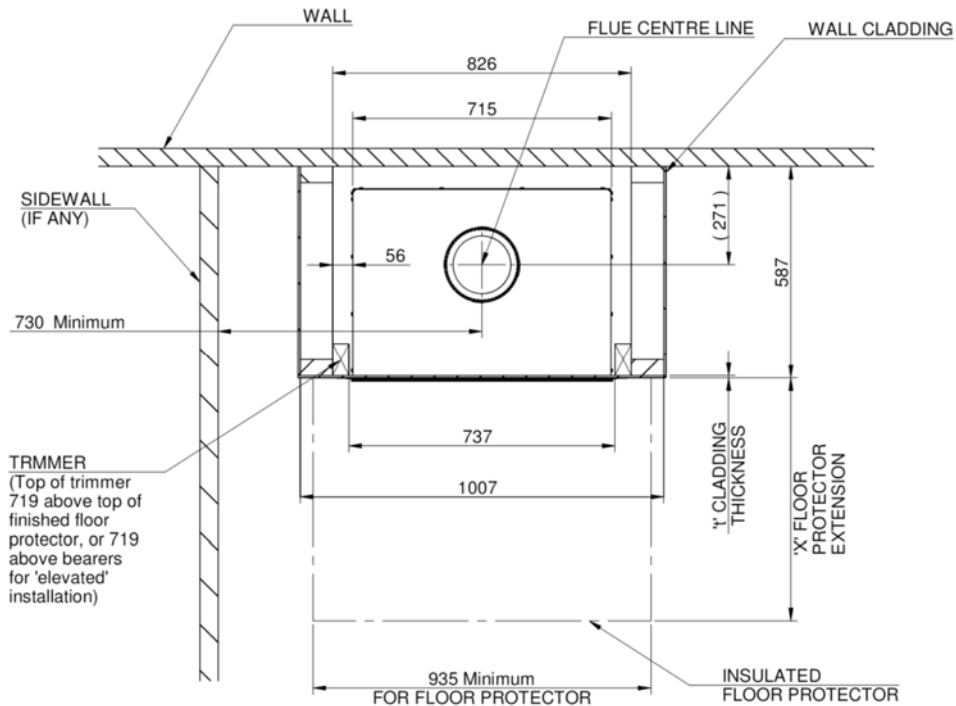

Fig. 2 FLOOR PLAN
1. Inspect the house construction at the proposed installation position to verify that the flue shield (250mm diameter, plus 25mm clearance all around) can pass right up through the ceiling space without requiring the removal of essential roof or ceiling support beams. The flue centerline will be 271 mm out from the rear wall and any side wall adjacent to that of the fire recess must be at least 730mm from the centre line of the flue. (See Fig. 2).
10. For heat sensitive floors, construct a floor protector of the shape shown in the Floor Plan above (Fig. 2). (See SPECIAL CONSTRUCTIONS below for concrete floors). The standard floor protector is constructed of two layers of 6mm thick MICORE 160, PROMATECTH, SUPALUX, or ETERPAN LD (of similar with a heat transition coefficient of 5 W/m³ K) topped with a layer of tiles or slate. This will give a thickness of approximately 20mm, and the extension from the face of the front cladding must be at least 412 mm. The floor protector must be at least 935 mm wide, but you may prefer to increase this size to match the fascia width (967 mm).